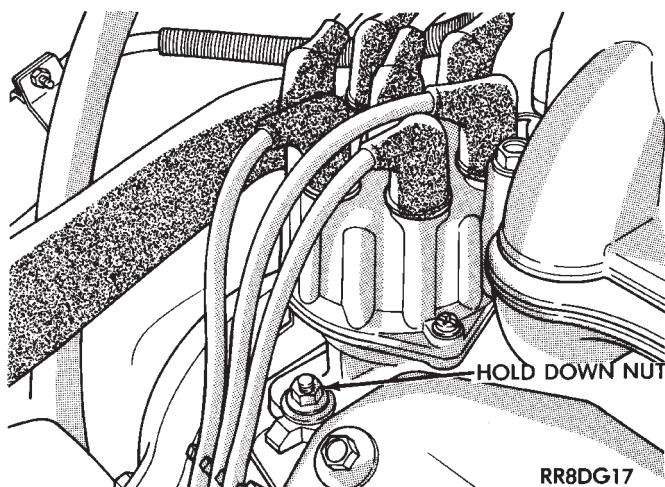

Fig. 22 Distributor Hold-Down—3.0L Engine
- (5) Remove distributor hold down nut (Fig. 22).
- (6) Carefully lift the distributor from the engine.